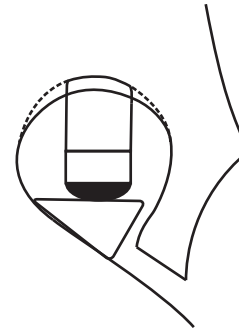

Fig. 3
- If the bridge hole fitting is too small (especially on the violin), it may have to be slightly enlarged towards the top as shown in Fig 3.